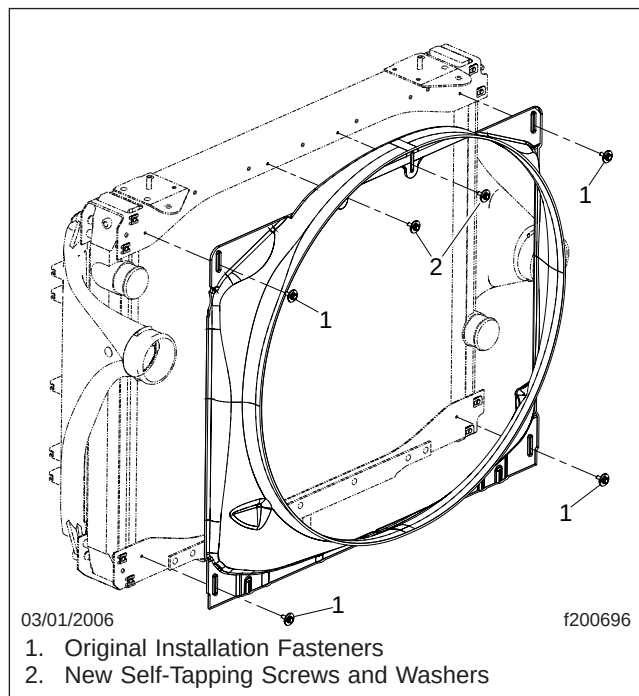

Fig. 2, Fan Shroud Installation
13. Attach the shroud using the fasteners previously removed, and two self-tapping screws and washers in the brackets on the top of the shroud. See Fig. 2.